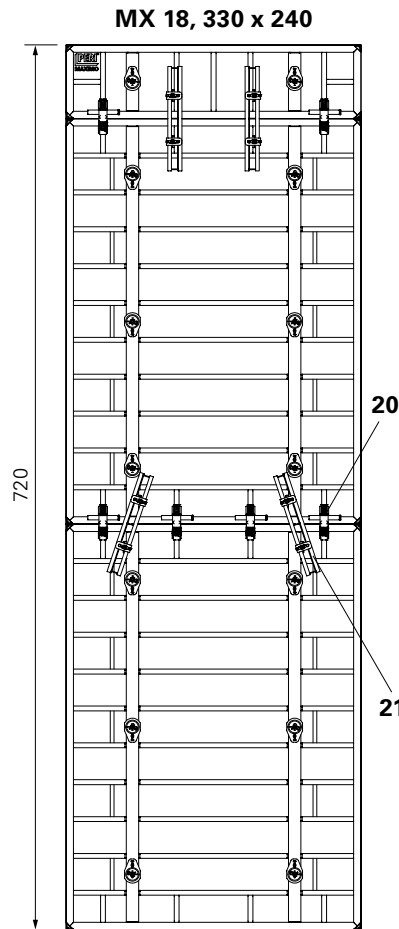

Fig. C8.03a
For extension units $H > 6.00$ m and $H \leq 7.20$ m, Alignment Couplers BFD (20) and Compensation Walsers MAR 85 (21) are to be used on panel joints. (Fig. C8.03a + C8.03b)